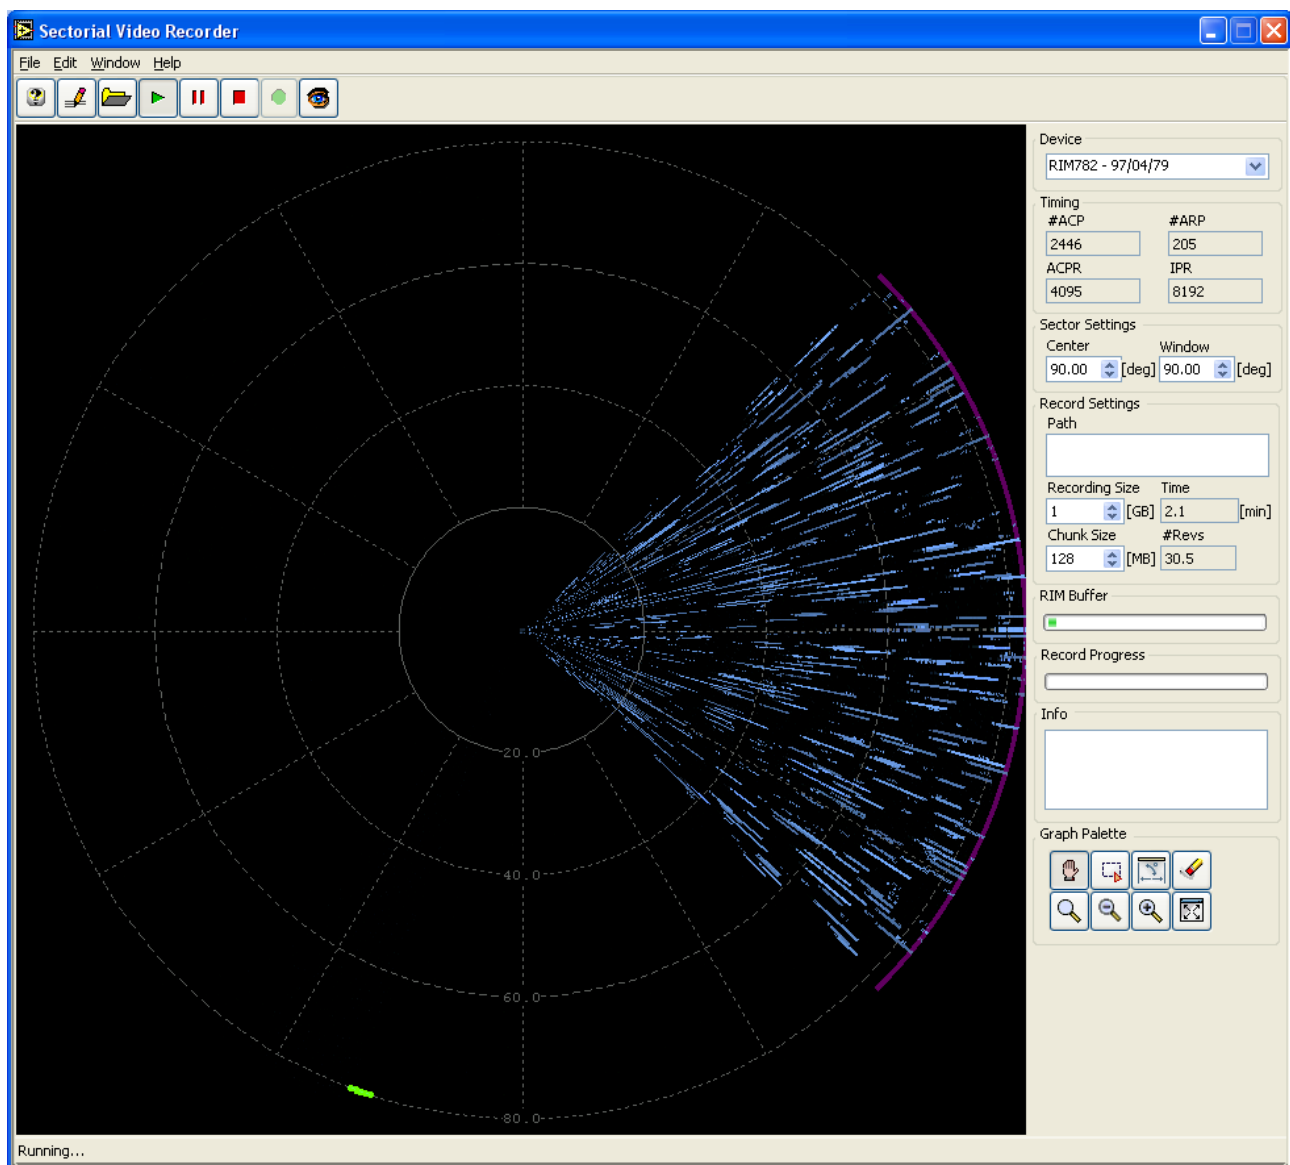

Figure 44: Sectorial Video Recording
3. In case the injected targets cannot be viewed, the **Display Settings** need to be changed through the **Settings**  menu. To get a similar result as in Figure 44, the Display Settings should be set about the same as in the figure below: